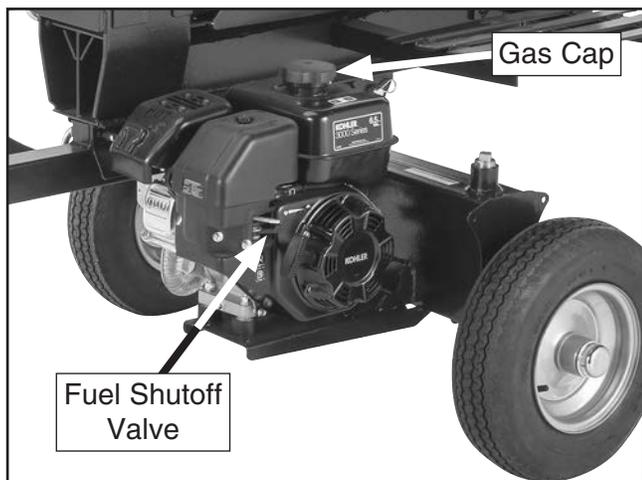

Figure 35. Fuel shutoff valve and gas cap location.
7. Close fuel shutoff valve (see **Figure 35**) on engine carburetor to prevent fuel leakage.
8. Make sure engine gas cap (see **Figure 35**) is secure and there are no tools or logs still on log splitter. Never allow any riders or cargo on log splitter while towing.